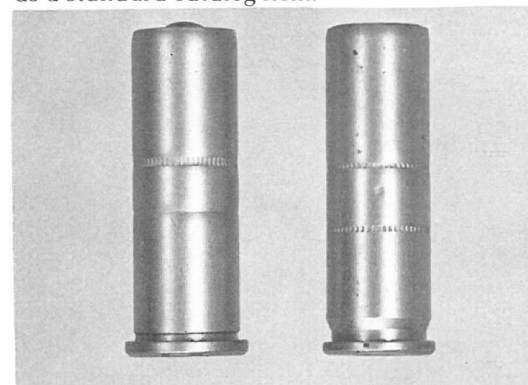

Figure 11. Ruger Single-Six Convertible Revolver.
11. *Ruger Single-Six Convertible Revolver (figure 11)*